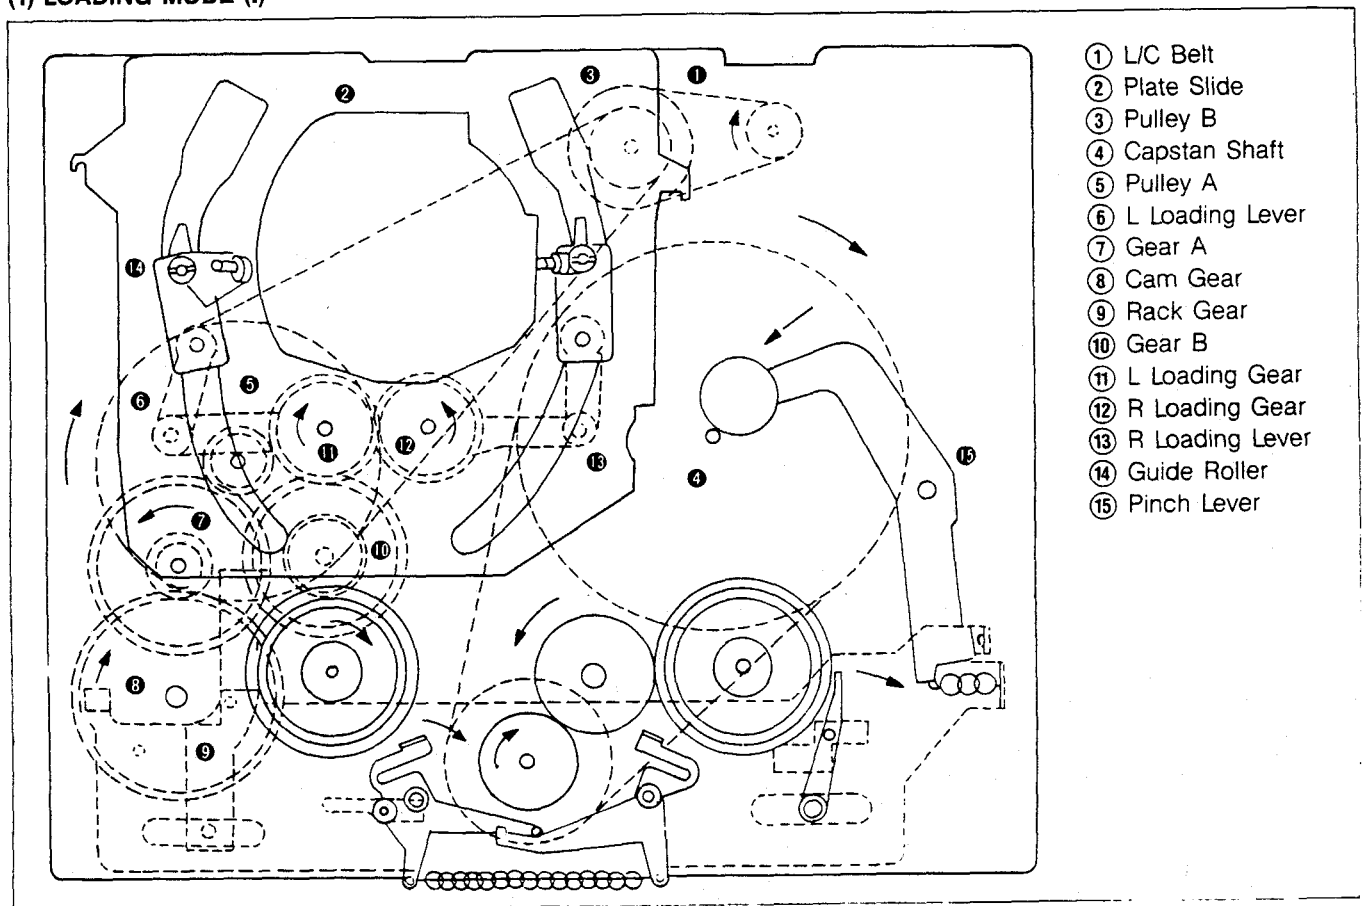

Fig. 47
- The pinch lever is moved in the direction indicated by the arrow as shown in Fig. 47.
As the cam gear rotates cw, the rack gear is rotated in the direction indicated by the arrow as shown in Fig. 47 according to the increase of the radius of cam surface.
- The pinch lever is moved slightly to the capstan shaft as shown in Fig. 47.